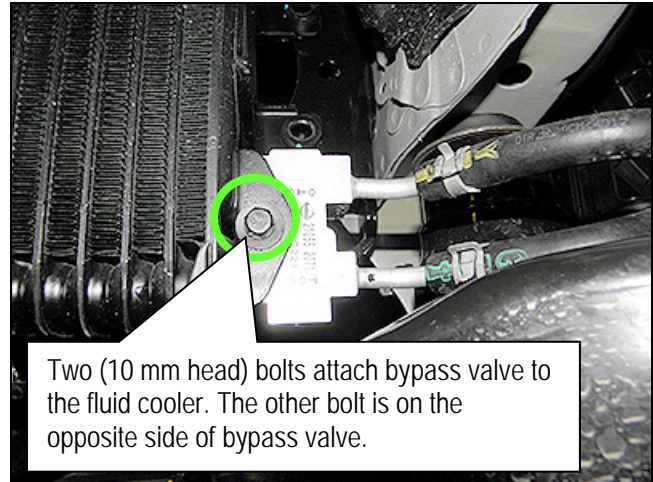

Figure 1
4. Unbolt and disconnect the external CVT fluid cooler bypass valve from the external CVT fluid cooler (Figure 1).